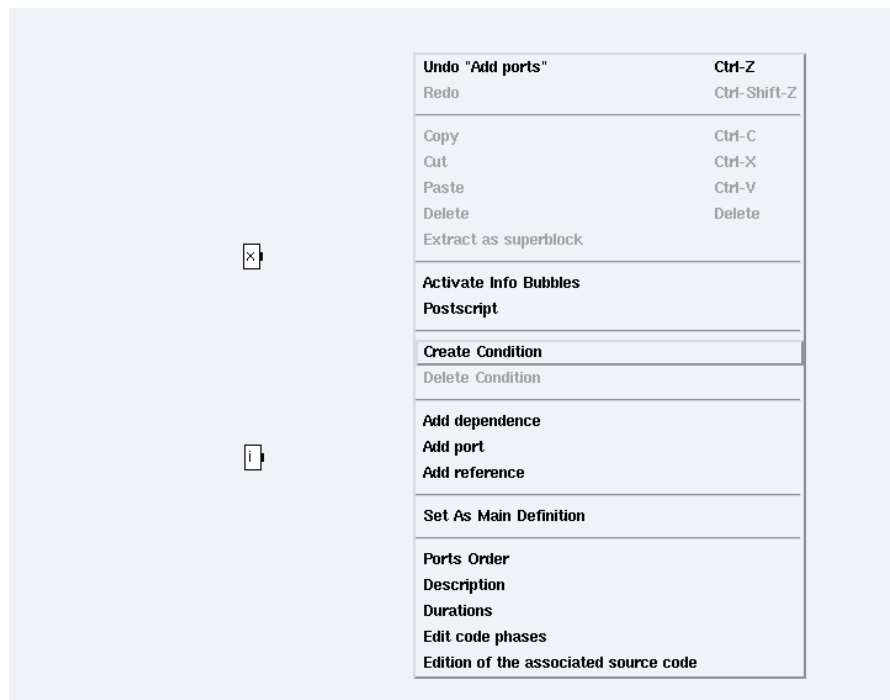

Figure 5.1: Create Condition
- contextual menu → **Create Condition** → dialog window: `x=1 x=2 x=3 x=4` (*cf.* figure 5.1):